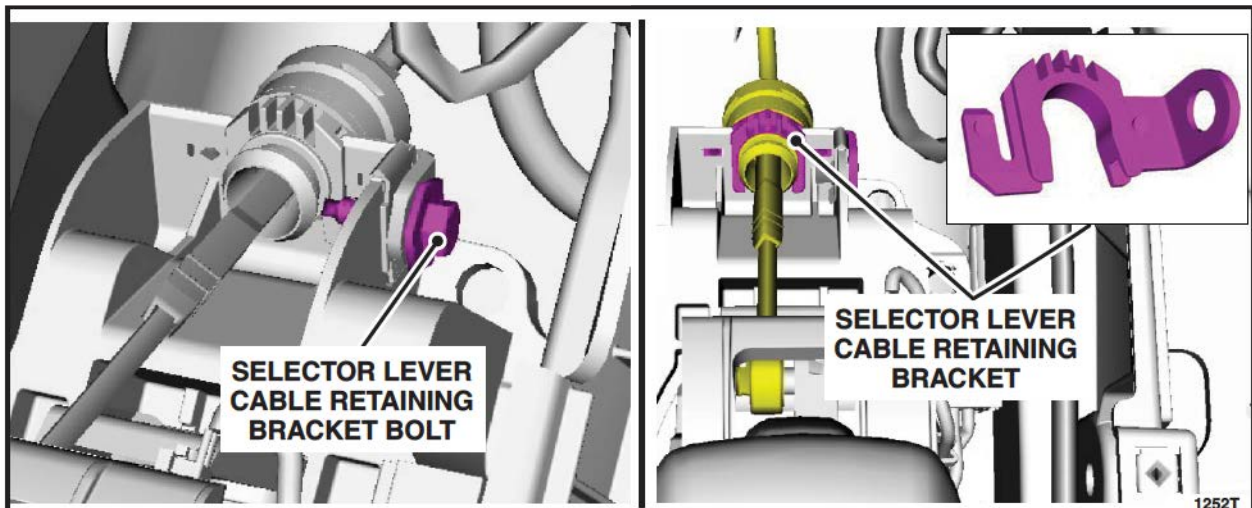

FIGURE 15
23. Remove the bolt from the selector lever cable retaining bracket. Remove the bracket and position the selector lever cable aside. See Figure 15.
9. Reposition the selector lever cable and install the retaining bracket. See Figure 15.